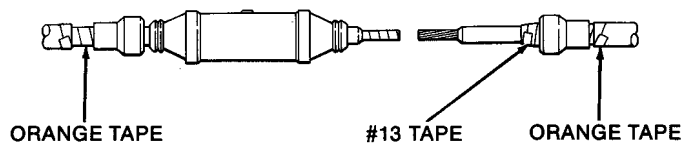

Figure 5
5. Lubricate bore of splice with silicone grease and install onto cable "X" leaving conductor exposed for connector (Figure 5). **HINT:** Rotation of splice body while pulling will ease installation.